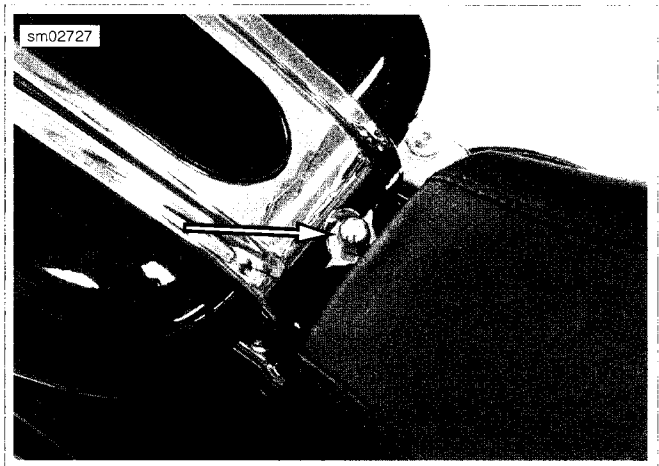

Figure 7-67. Rear Console Mount
4. See Figure 7-67. Remove acorn nut from rear of instrument console.
- a. See Figure 7-67. Loosely install acorn nut on rear console mount.